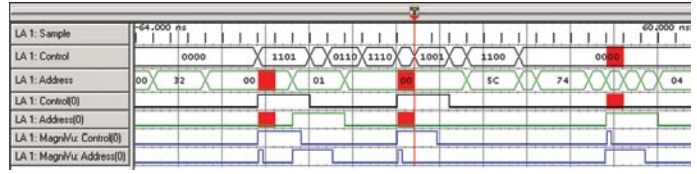

Figure 4. Control (0) and Address (0) lines with MagniVu traces showing glitches caused by crosstalk.
Now focus on the second glitch identified in Control (0). Use MagniVu high-resolution timing to examine the two remaining flagged lines, Control (0) and Address (0). Figure 4 shows that since MagniVu waveforms are examining the signals at a much higher resolution, 125 ps, it is able to discern far narrower glitches on both lines. Note that the glitch and a pulse occur at the same time on both signal lines. That often indicates crosstalk between the two signals, but you need to take a different kind of close-up look to be sure. Proceeding to Step IV will also reveal more about this.